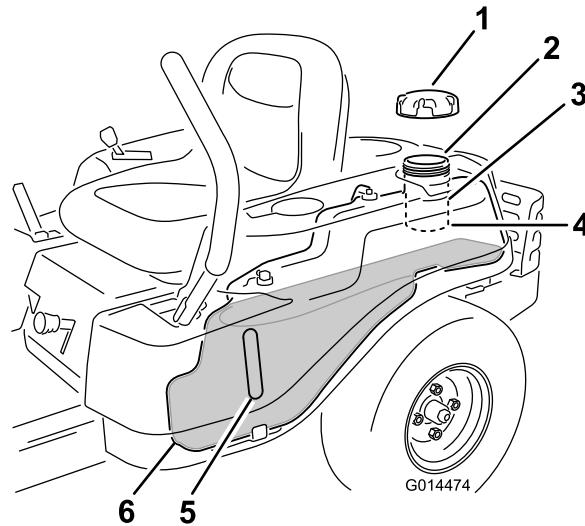

Figure 10
- Note:** You can use the fuel window to verify the presence of gasoline before filling the tank (Figure 10).
2. **Slowly** add regular, unleaded gasoline until the fuel reaches the base of the filler neck (Figure 10).